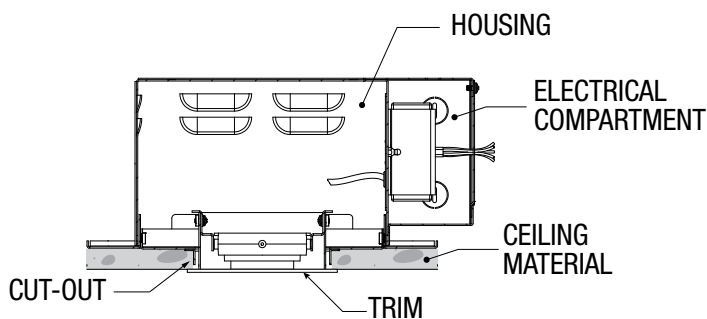

FIGURE 4
1. Install the ceiling material below housing as seen in *Fig 4*. A clean, square cut-out in the CEILING MATERIAL is optimal.